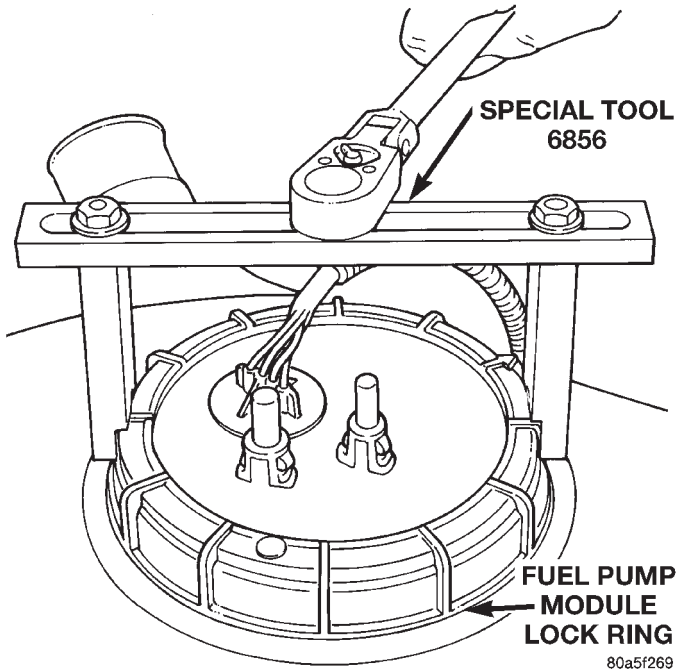

Fig. 13 Fuel Pump Module Locknut
(1) Remove fuel filler cap and perform Fuel System Pressure Release procedure.
(2) Disconnect negative cable from auxiliary jumper terminal.
(3) Remove fuel tank.
(4) Disconnect fuel filter lines from fuel pump module.
(5) Clean top of tank to remove loose dirt and debris.
(6) Using Special Tool #6856 Fuel Pump Module Ring Spanner, remove locknut to release pump module (Fig. 13).